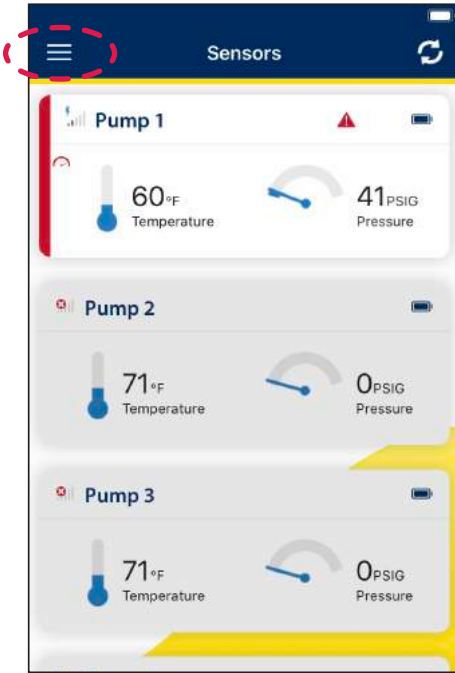

Figure 34
1. Select the **Menu icon** (see figure 34).